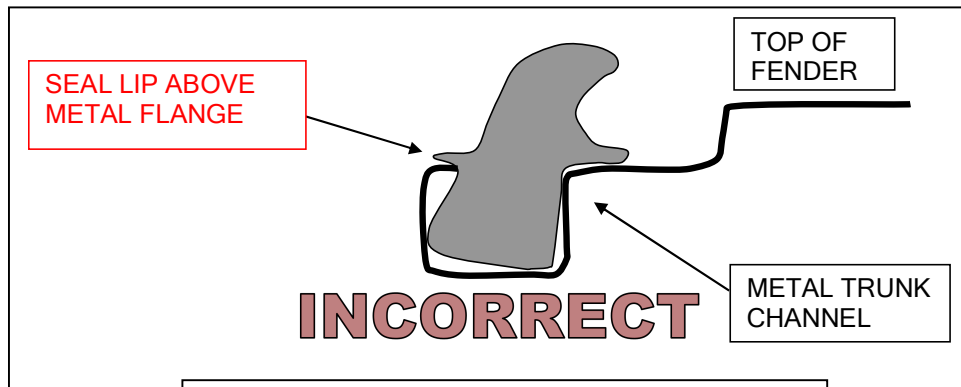

FIGURE 1. - Weatherstrip not seated below flange.
2. The weatherstrip is not fully seated into the channel. Pushing the seal lip below the metal flange requires the careful use of a putty knife or tool that has no sharp edges. See Figure 1.